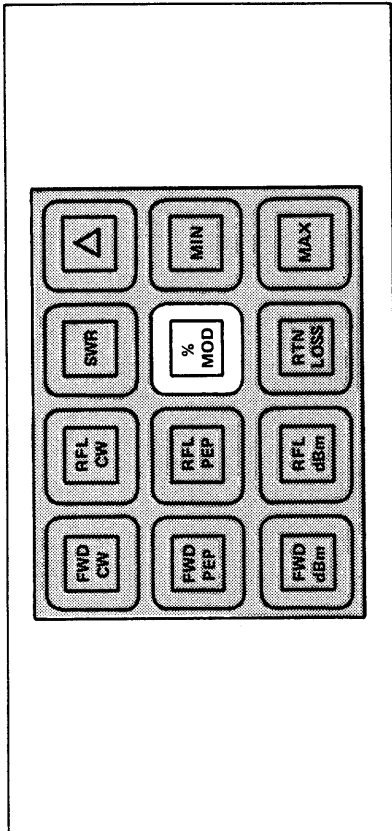

Figure 3-5. Amplitude Modulation (%).
e. **Measuring Amplitude Modulation.** (Figure 3-5.) Only a forward element is required for this mode. The element should be pointed in the direction of forward power and the **% MOD** key pressed. Modulation is displayed directly in percent, provided the average signal is above 10% and the PIP of the signal is below 400% of the element's nominal full scale. For specified measurement accuracy, the average CW power levels must be greater than one third of full scale. Modulation is calculated as follows: